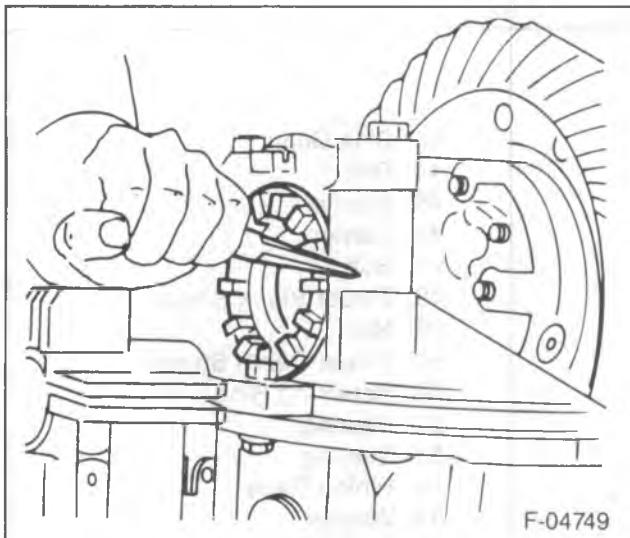
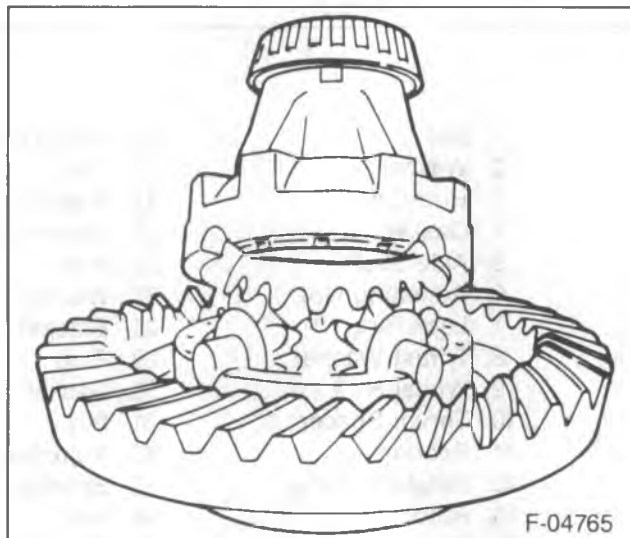
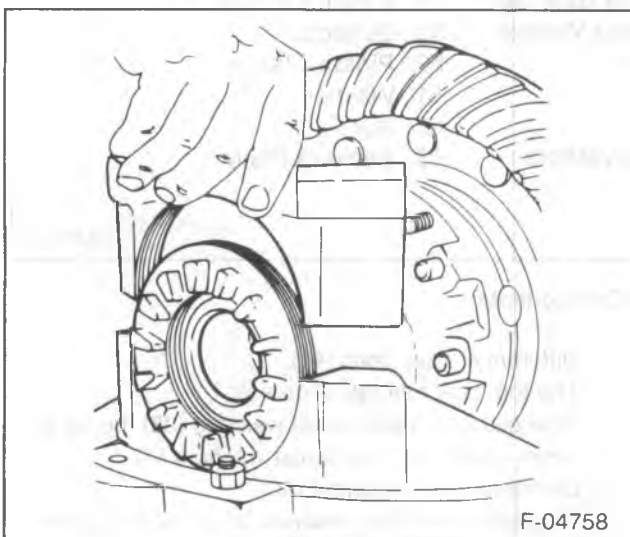
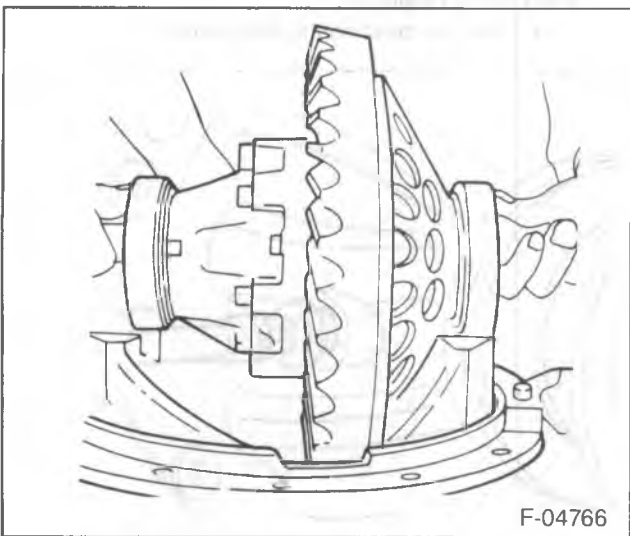

Figure 5—Punching the Carrier Leg
Figure 8—Differential Case Halves
Figure 6—Removing the Bearing Cap
Figure 7—Removing the Differential
- Center punch one differential carrier leg and bearing cap to identify the cap for reassembly (figure 5).
4. Bearing cap bolts (23).
5. Bearing caps (25) (figure 6).
6. Adjusting nuts (32).
7. Differential and gear assembly (36) from the carrier (figure 7).
8. Differential case bolts (44).
9. The top case half (36) (figure 8).